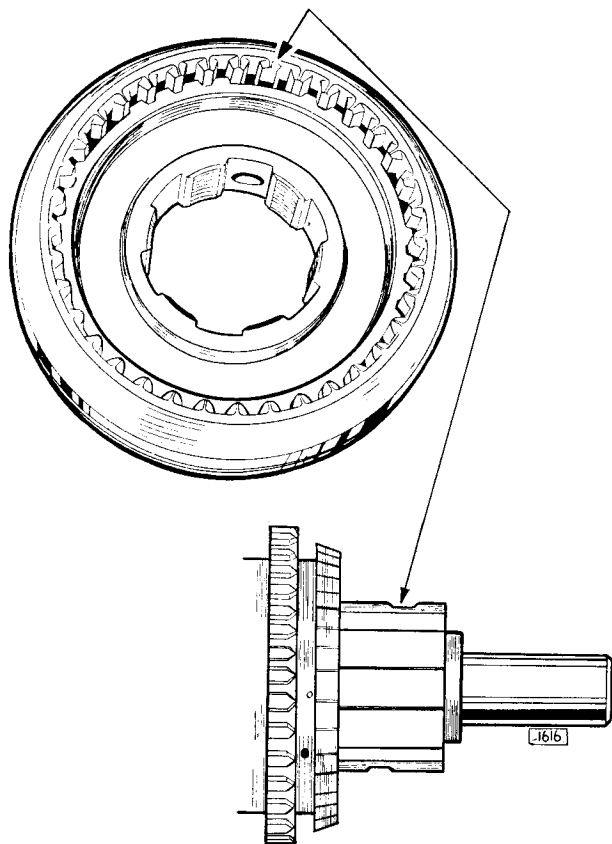

Fig. 17. The relieved tooth at the wide chamfer end of the outer operating sleeve must be in line with the foremost groove in the mainshaft.
- (a) There are two transverse grooves on the mainshaft splines which take the 3rd/top synchro assembly and the relieved tooth at the wide chamfer end of the outer operating sleeve must be in line with the **foremost** groove in the mainshaft (Fig. 17). Failure to observe this procedure will result in the locking plungers engaging the wrong grooves thereby preventing full engagement of top and third gears.